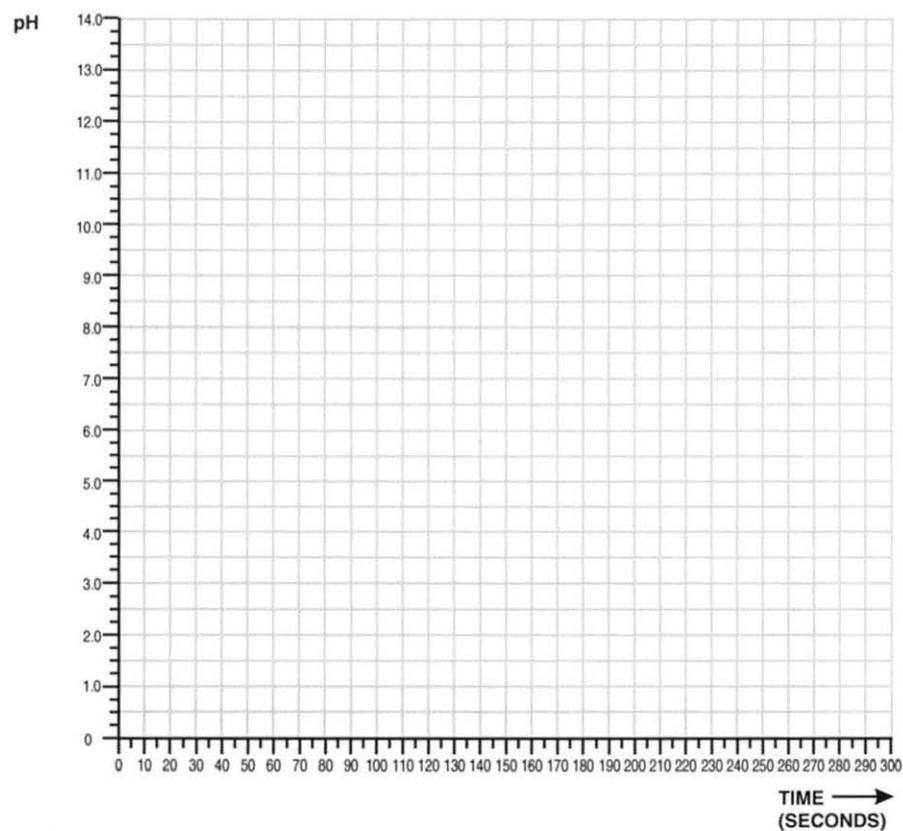

Figure 40. Graph of PV vs. Time
M. Create a graph of PV vs. time, similar to figure 40, on a piece of graph paper.